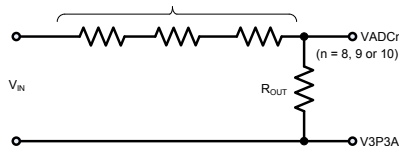
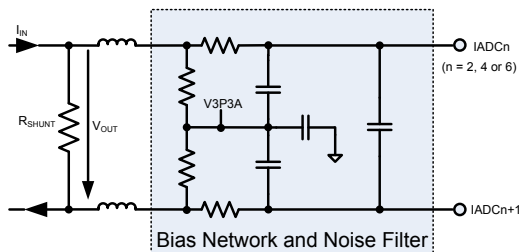
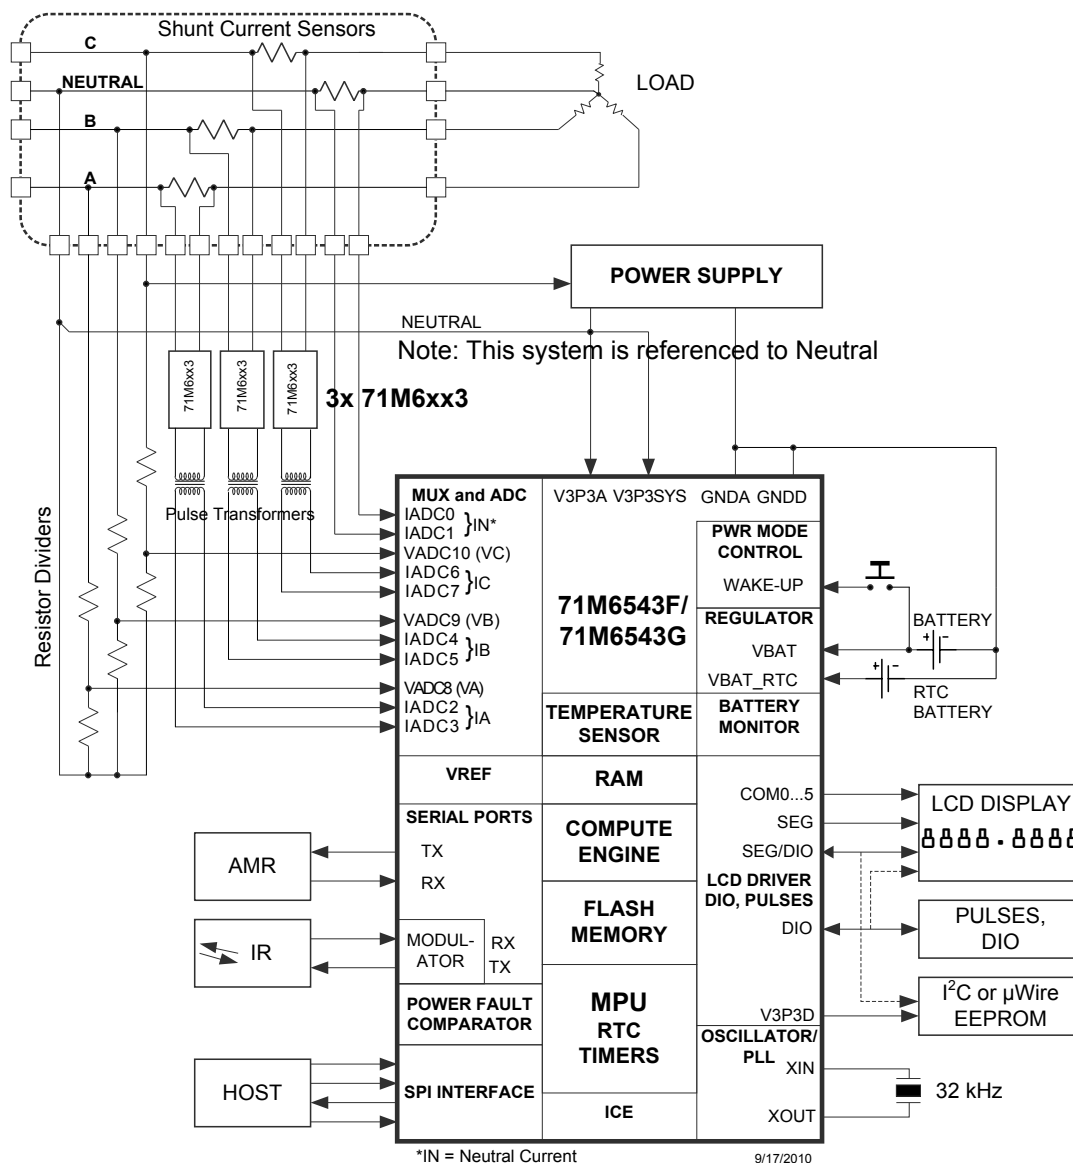
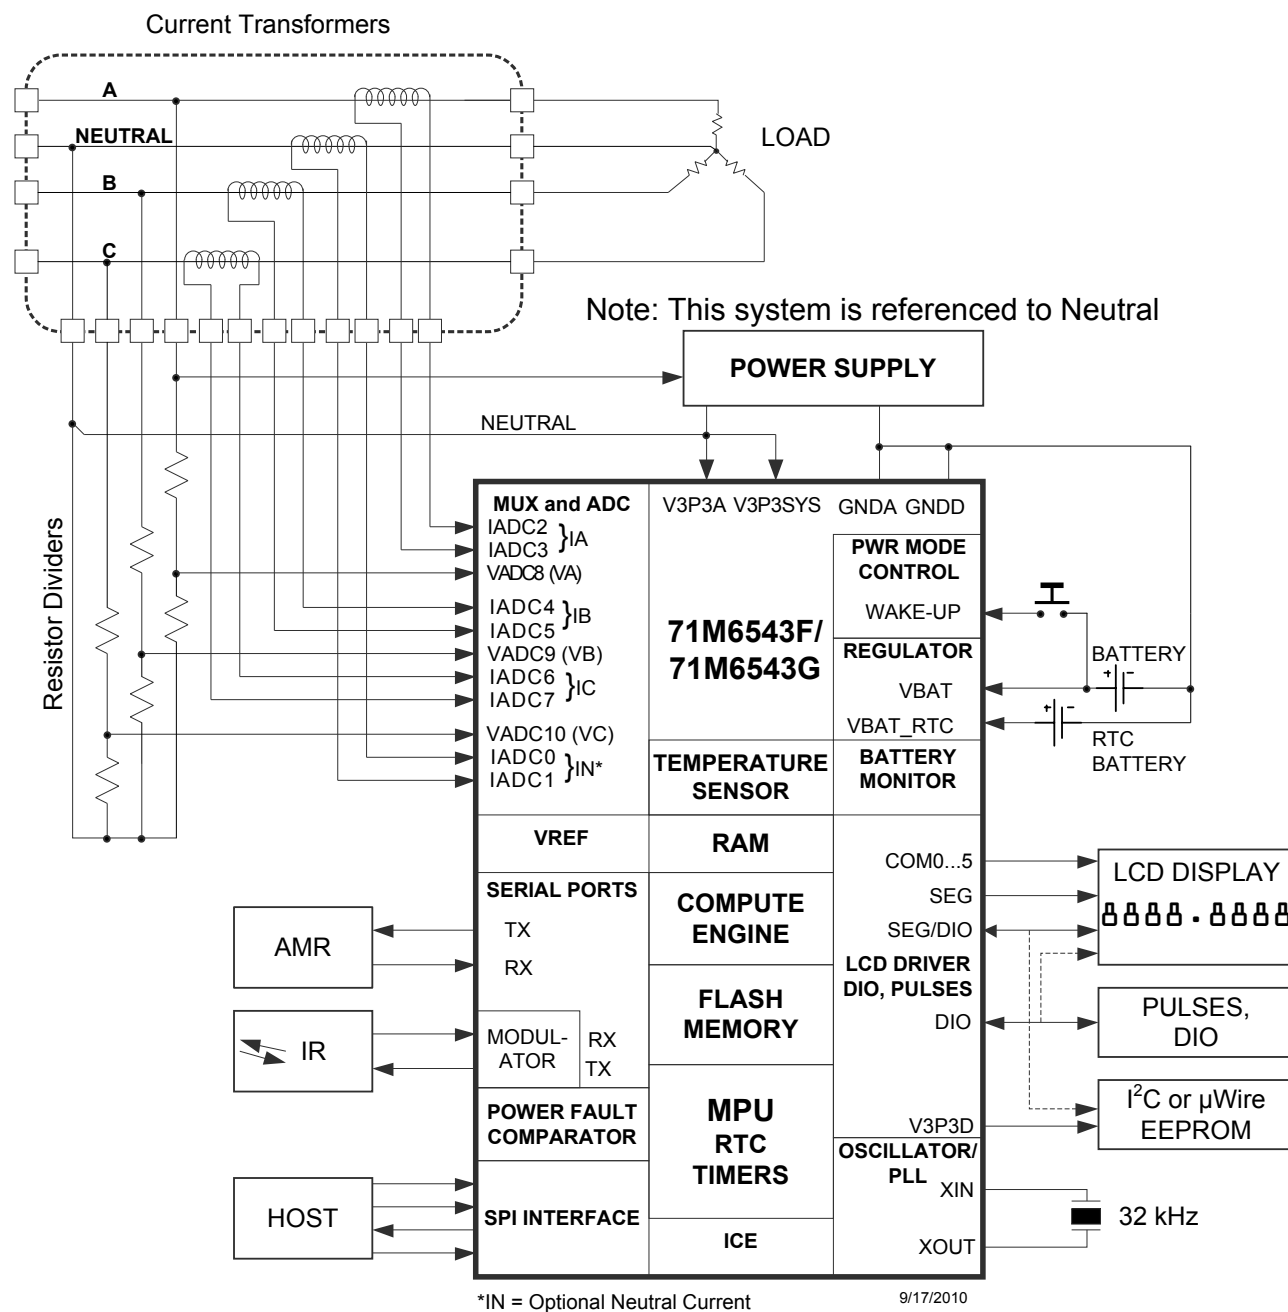

Figure 27: Resistive Voltage Divider (Voltage Sensing)
Figure 30: Differential Resistive Shunt Connections (Current Sensing)
Figure 31: System Using Three-Remotes and One-Local (Neutral) Sensor
Figure 32. System Using Current Transformers
Figure 27 through Figure 30 show voltage-sensing resistive dividers, current-sensing current transformers (CTs) and current-sensing resistive shunts and how they are connected to the voltage and current inputs of the 71M6543. All input signals to the 71M6543 sensor inputs are voltage signals providing a scaled representation of either a sensed voltage or current.
Figure 31 shows a typical connection for current shunt sensors; using the 71M6xx3 (polyphase) isolated sensors. Note that one shunt current sensor is connected without isolation, which is the neutral current sensor in this example (connected to pins IADC0-IADC1). Each 71M6xx3 device is electrically isolated by a low-cost pulse transformer. The 71M6543 current sensor inputs must be configured for remote sensor communications, as described in 2.2.8 71M6xx3 Isolated Sensor Interface (page 22). Flexible remapping using the I/O RAM registers *MUXn_SEL[3:0]* allows the sequence of analog input pins to be different from the standard configuration (a corresponding CE code must be used). See Figure 2 for the AFE configuration corresponding to Figure 31.
Figure 32 shows a polyphase system using four current transformers to support optional Neutral current sensing for anti-tamper purposes. The Neutral current sensing CT can be omitted if Neutral current sensing is not required. The system is referenced to Neutral (i.e., the Neutral rail is tied to V3P3A and V3P3SYS).
This section discusses metrology temperature compensation for the meter designs where current shunt sensors are used in conjunction with the 71M6xx3 remote isolated sensors, as shown in Figure 31.
Referring to Figure 31, the VADC8 (VA), VADC9 (VB) and VADC10 (VC) voltage sensors are always directly connected to the 71M6543. Thus, the precision of the voltage sensors is primarily affected by VREF in the 71M6543. The temperature coefficient of the resistors used to implement the voltage dividers for the voltage sensors (see Figure 27) determine the behavior of the voltage division ratio with respect to temperature. It is recommended to use resistors with low temperature coefficients, while forming the entire voltage divider using resistors belonging to the same technology family, in order to minimize the temperature dependency of the voltage division ratio. The resistors must also have suitable voltage ratings.
Table 66 shows the five *GAIN_ADJx* equation output storage locations and the voltage or current sensor channels for which they compensate for the 1 Local / 3 Remote configuration shown in Figure 31.
Table 66: GAIN_ADJn Compensation Channels (Figure 2, Figure 31, Table 1)
This section discusses metrology temperature compensation for meter designs where Current Transformer (CT) sensors are used, as shown in Figure 32.
Referring to Figure 32, the VADC8 (VA), VADC9 (VB) and VADC10 (VC) voltage sensors are directly connected to the 71M6543. Thus, the precision of the voltage sensors is primarily affected by VREF in the 71M6543. The temperature coefficient of the resistors used to implement the voltage dividers for the voltage sensors (see Figure 27) determine the behavior of the voltage division ratio with respect to temperature. It is recommended to use resistors with low temperature coefficients, while forming the entire voltage divider using resistors belonging to the same technology family, in order to minimize the temperature dependency of the voltage division ratio. The resistors must also have suitable voltage ratings.
Table 67: GAIN_ADJx Compensation Channels (Figure 3, Figure 32, Table 2)